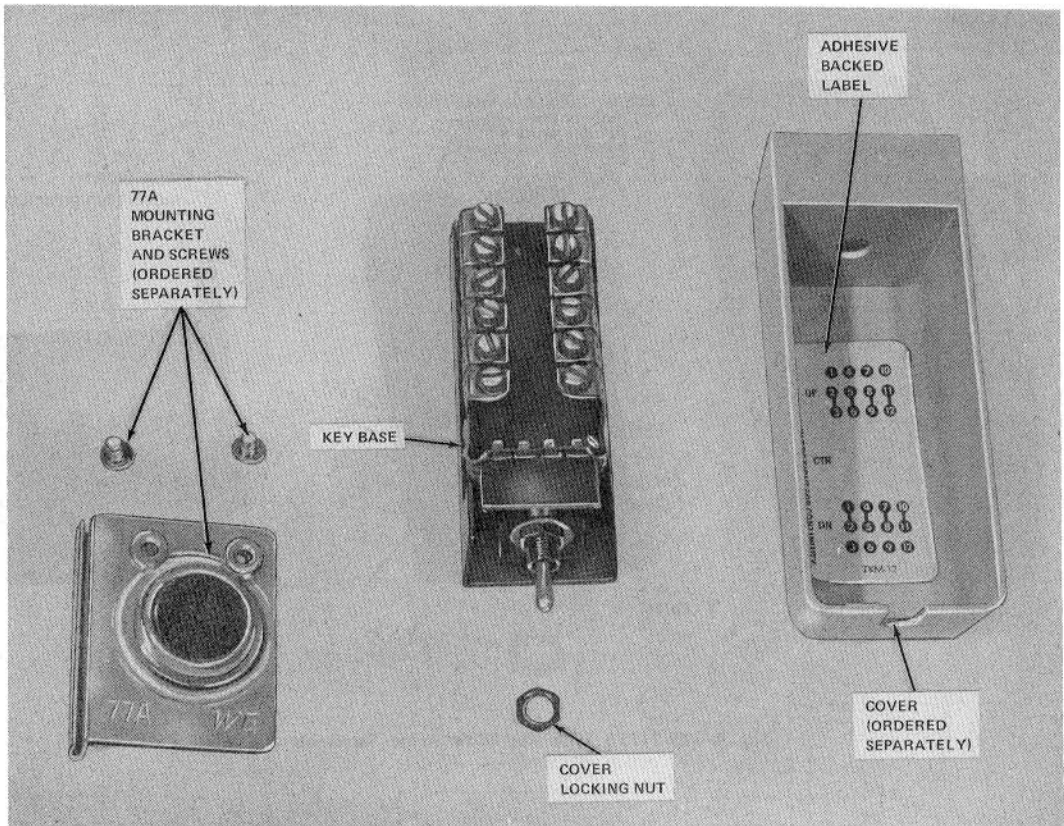

Fig. 8—KS-21776 Type Key With Flexible Wiring Strip
- (a) There are two types of keys, one type (Fig. 8) consists of:
- (1) Toggle switch (two or four pole).
- (c) Terminate electrical connections as required. The stick-on schematic decal furnished with all keys should be placed inside the key cover as shown in Fig. 8♦